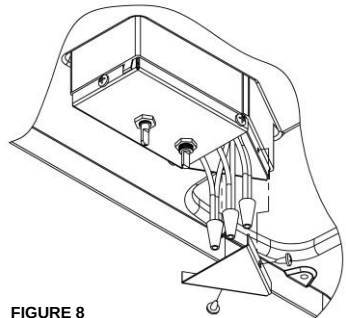

FIGURE 8
- D. Connect the supply power black conductor to the black pigtail wire, the white conductor to the white pigtail wire and the supply ground conductor to the green pigtail wire found in the wiring box using the 3 provided wire nuts. Using a U.L. approved electrical tape, secure the wire nuts to wires in a workmanlike manner (See Figure 8).
- E. Press supply conductors and wire nuts into wiring box, making sure no wires are pinched, and secure the wire box cover with 2 provided screws (See Figure 8).